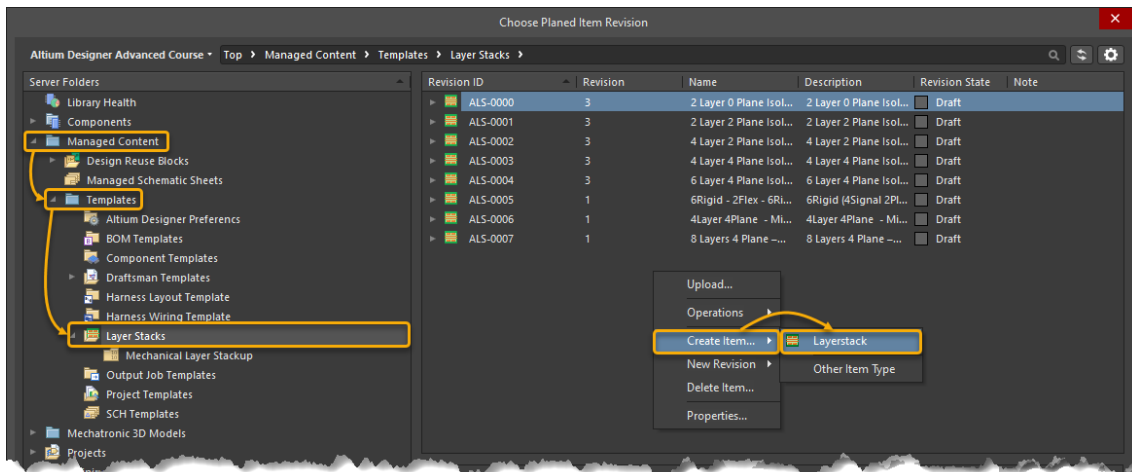

Figure 15. Adding a Layerstack in Choose Planned Item revision dialog
- a) Create the 8 Layer Stack Item through the *Choose Planned Item Revision* dialog (Figure 15):